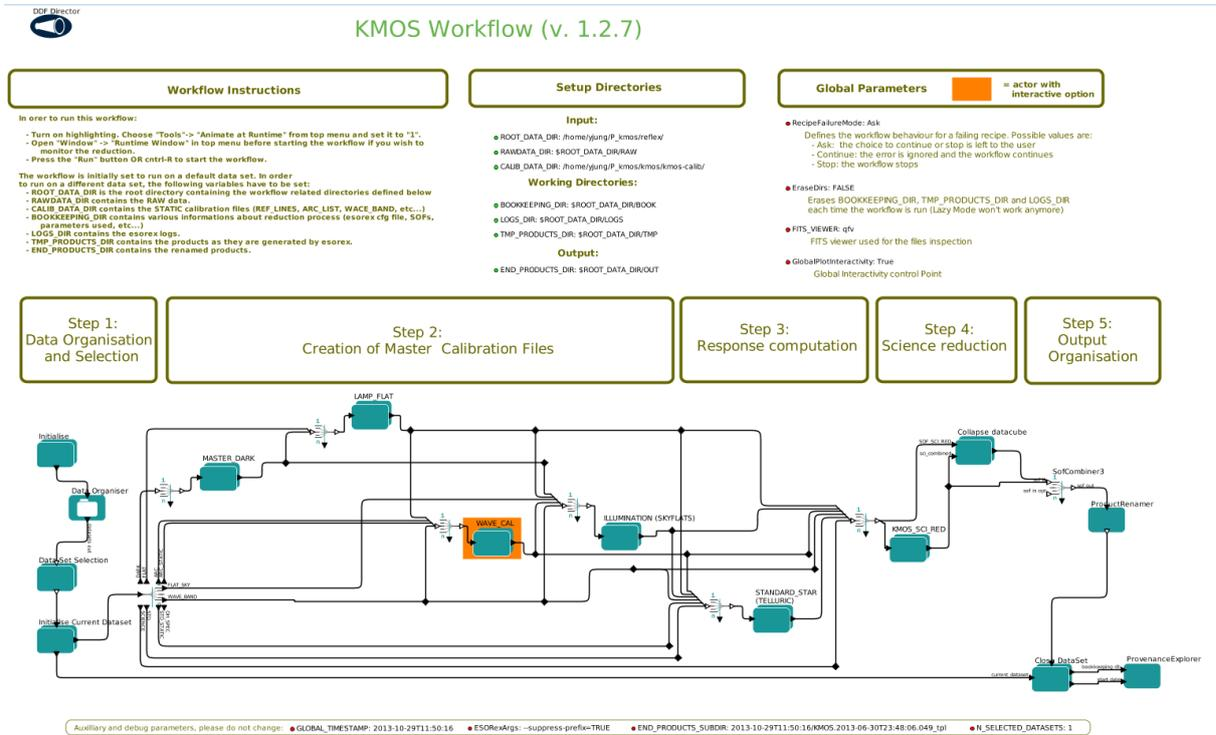

Figure 4.2: KMOS workflow general layout.
2. Now open the KMOS workflow by clicking on `File -> Open File`, selecting first `kmoss-1.3.0` and then the file `kmoss.xml` in the file browser. You will be presented with the workflow canvas shown in Figure 4.2. Note that the workflow will appear as a canvas in a new window.